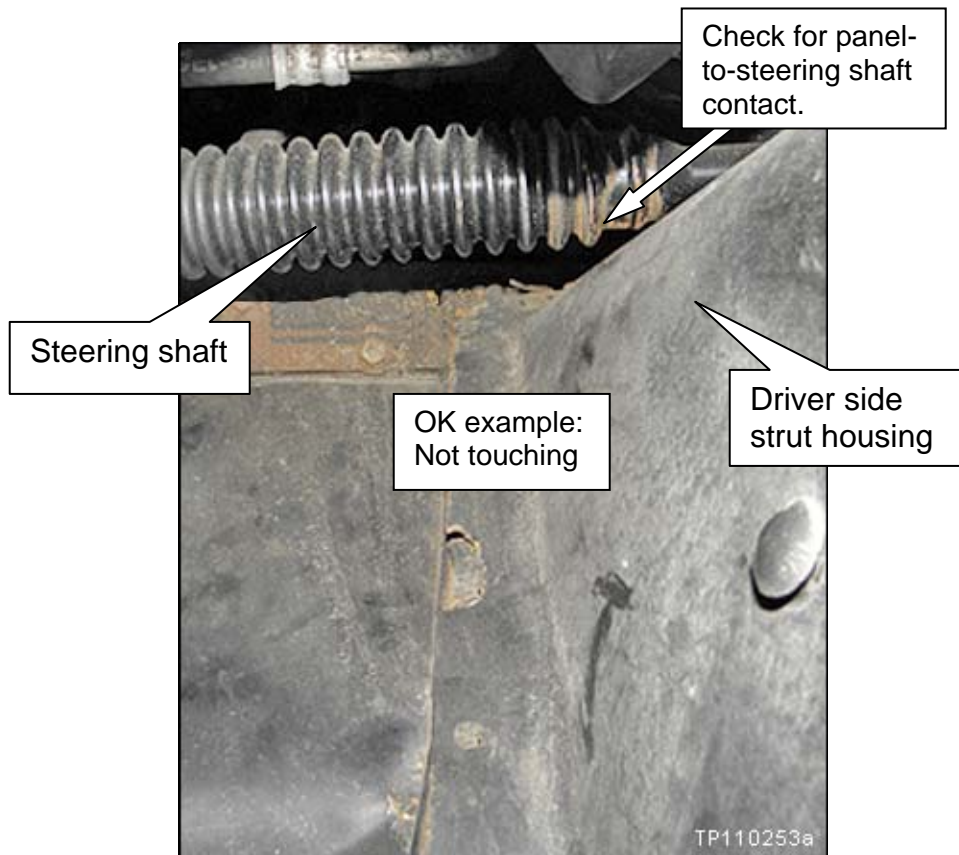

Figure 8
4. Check for driver side strut housing panel to steering shaft contact (see Figure 8).